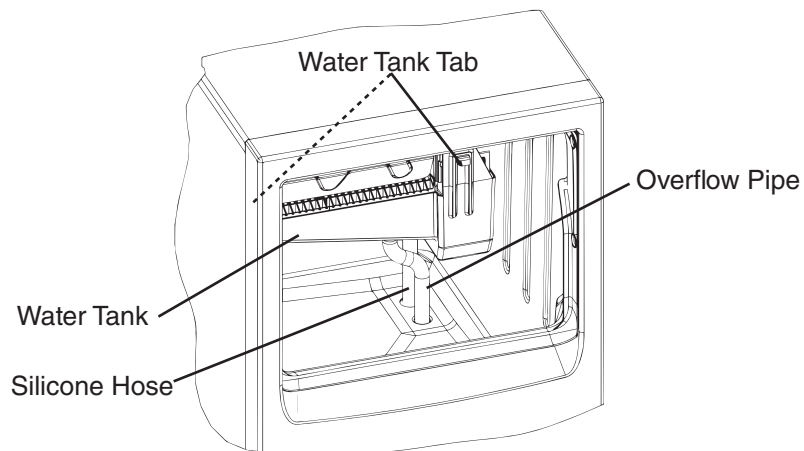

Fig. 1
- 3) Disconnect the silicone hose and overflow pipe. Allow the water tank to drain completely. Next, remove the water tank by pressing down the snaps on the bracket (L) and (R), pulling the water tank towards you slightly, and pushing it down. See Fig. 1.